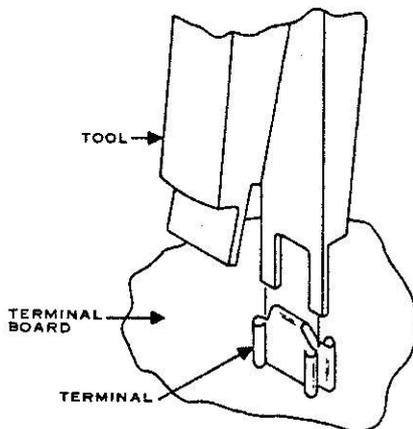

Figure 13. Receptacle Adjustment Tool.
- 8 FOR TWO CONNECTIONS TO ONE SIDE OF A TERMINAL ON THE NETWORK, INSERT THE FIRST TERMINAL IN THE NORMAL MANNER AND INSERT THE SECOND TERMINAL LEAD BETWEEN THE TERMINAL ON THE TERMINAL BOARD AND THE FIRST SPADE TERMINAL (FIGURE 13).
8. FOR TWO CONNECTIONS TO ONE SIDE OF A TERMINAL ON THE NETWORK, INSERT THE FIRST TERMINAL IN THE NORMAL MANNER AND INSERT THE SECOND TERMINAL LEAD BETWEEN THE TERMINAL ON THE TERMINAL BOARD AND THE FIRST SPADE TERMINAL (FIGURE 13).
3. FOR TWO CONNECTIONS TO ONE SIDE OF A TERMINAL ON THE NETWORK, INSERT THE FIRST TERMINAL IN THE NORMAL MANNER AND INSERT THE SECOND TERMINAL LEAD BETWEEN THE TERMINAL ON THE TERMINAL BOARD AND THE FIRST SPADE TERMINAL (FIGURE 13).
3. FOR TWO CONNECTIONS TO ONE SIDE OF A TERMINAL ON THE NETWORK, INSERT THE FIRST TERMINAL IN THE NORMAL MANNER AND INSERT THE SECOND TERMINAL LEAD BETWEEN THE TERMINAL ON THE TERMINAL BOARD AND THE FIRST SPADE TERMINAL (FIGURE 13)